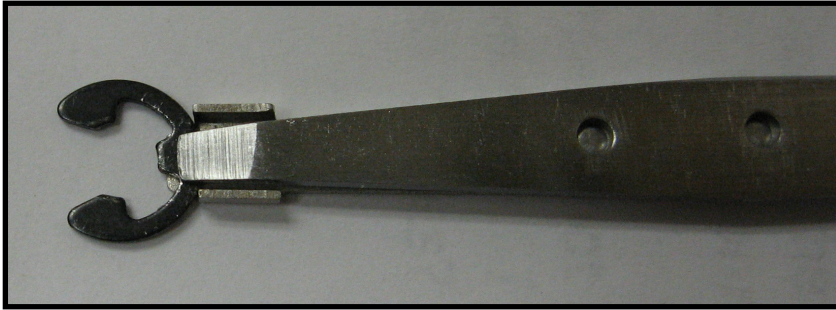

Figure 20a
20.) Place the e-clip in the E-Clip Installation Tool, McMaster-Carr part# 5728A2 or similar (Fig 20a) Then, re-install the e-clip. (Fig 20b)